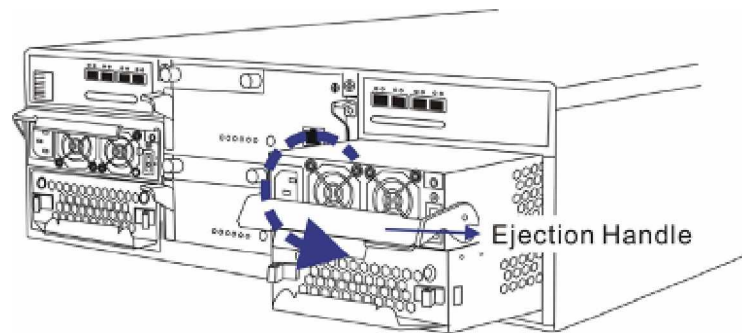

Figure 5-23: Pressing Down the PSU Handle
**Step 4.** *Remove the PSU module* by pressing down the ejection handle found on the top of the PSU. (See *Figure 5-23*) This will dislodge the PSU module from the subsystem.